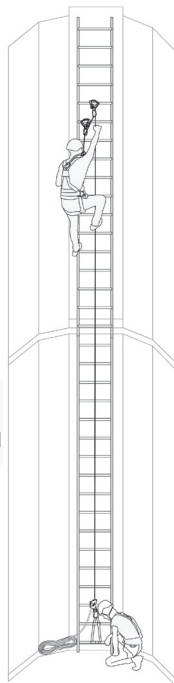

Figure 1
5. Climber 2 installs a descending device on a suitable anchor point (around 2 rungs) with the use of a 120 cm sling and auto-lock carabiner (see Figure 1) at to the right.
7. Climber 1 to ascend the structure with the use of the two pylon hooks attached to the working rope (see Figure 1).